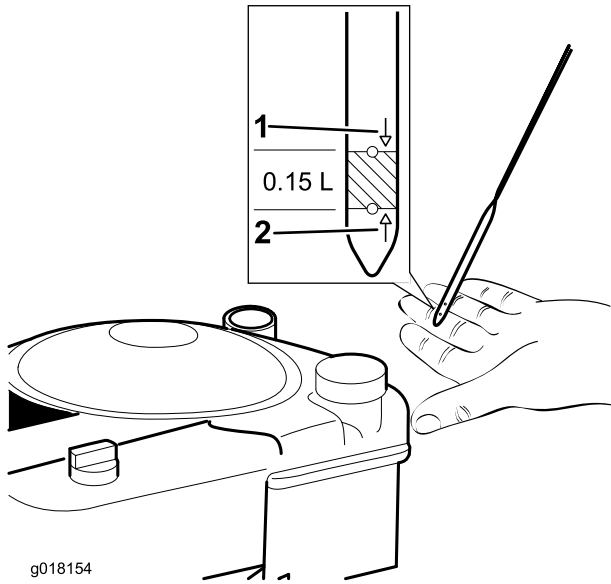

Figure 10
3. If the oil level is low, **slowly** pour oil into the oil-fill tube, wait 3 minutes, and check the oil level on the dipstick by wiping the dipstick clean and then inserting the dipstick into the tube (Figure 10).
4. Fill the engine with oil until the dipstick indicates that the engine-oil level is correct as shown in Figure 10. If you overfill the engine with oil, remove the excess oil as directed in Changing the Engine Oil (page 13).